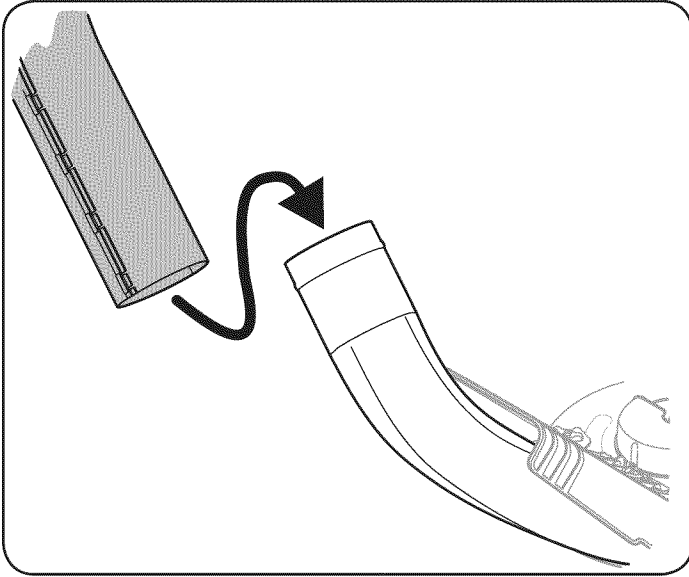

Figure 24
3. With the ability now to wiggle the discharge chute tube back and forth, slide it over the chute elbow mounted on the cutting deck, as shown in Figure 24.